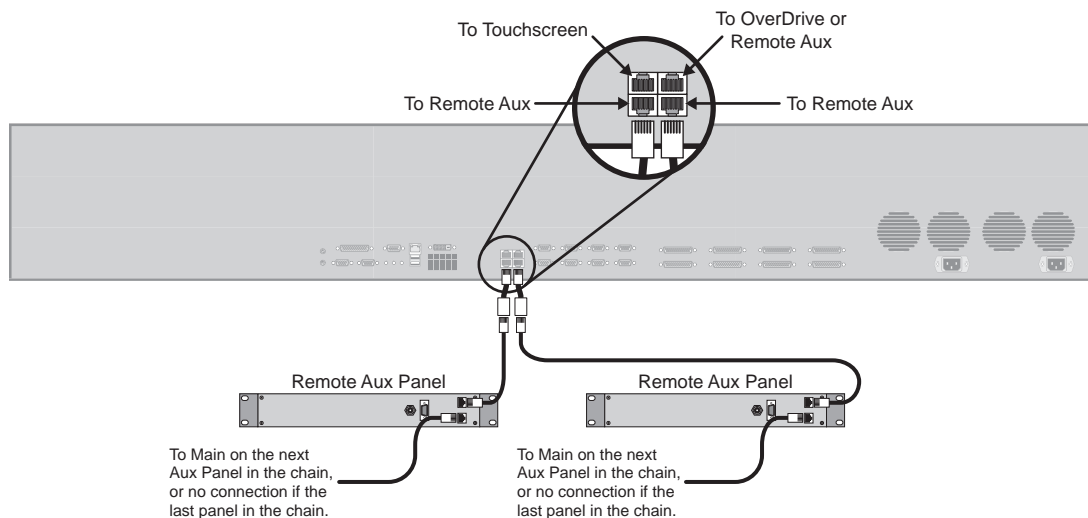

Figure 14.5 Vision Control Panel — Remote Aux Connection
1. Connect and secure the **RJ-45** end of the **Remote Aux Panel Cable Adapter** to one of the **External Link Ports** on the back of the control panel (**Figure 14.5**).